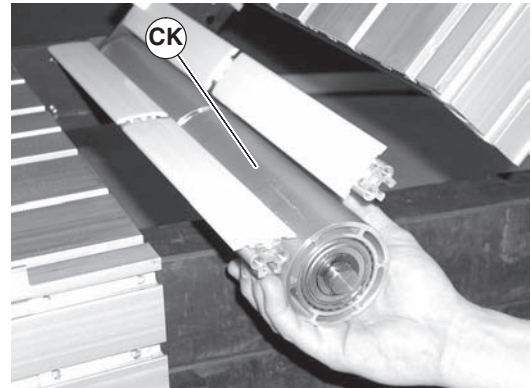

Figure 82
4. Slide the idler pulley assembly (Figure 82, item CK) out of the knuckle plate on the opposite side.